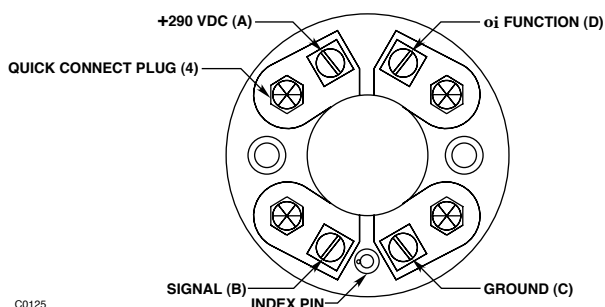

Figure 11—Detector Terminal Block
3. Install the A-, B-, C-, and D-leads to the connections on the terminal block. See Figure 11. Do not ground the shield to the detector housing.